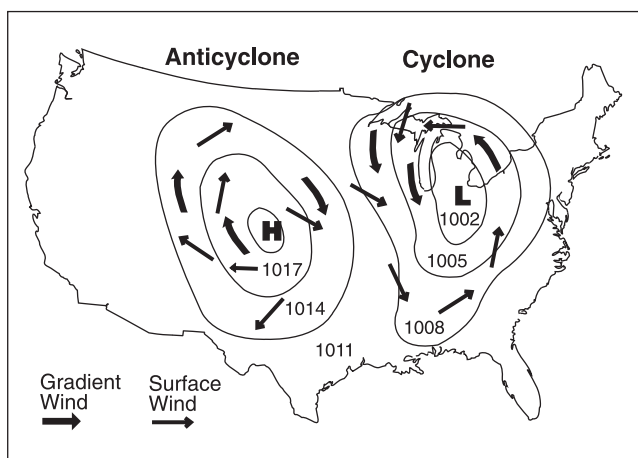

Figure 6-2. Gradient and surface wind
4. Due to surface friction (up to about 2,000 feet AGL), surface winds do not exactly parallel the isobars, but move outward from the center of the high toward lower pressure. See Figure 6-2.